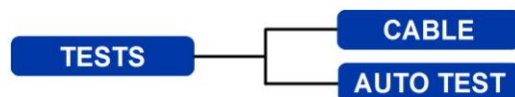

Fig 16 Tests menu map – Ethernet testing (1)
(1) When a SignalTEK II Remote Unit is directly connected but no active network is detected, the home screen information bar will read 'Ethernet'. When the TESTS icon is selected, the Ethernet tests shown in the menu map at Fig 16 are available.